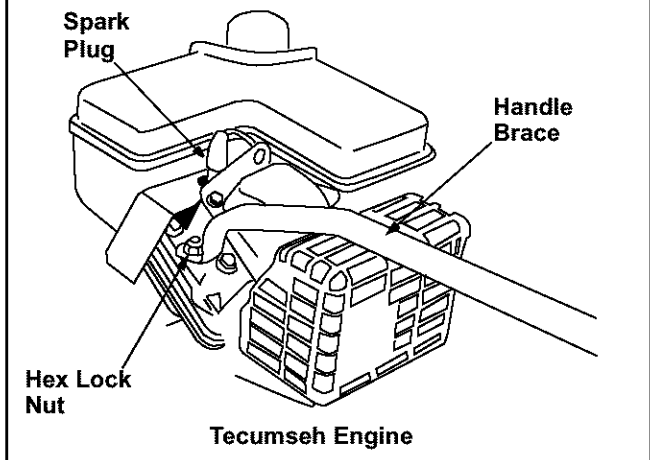

Figure 3
- Remove the hex lock nut from on top of the engine, just to the left of the spark plug. Attach the curved end of the handle brace to the top of the engine, using hex lock nut just removed. Tighten securely. See Figure 3. **(Standard Briggs & Stratton & Tecumseh engines).**